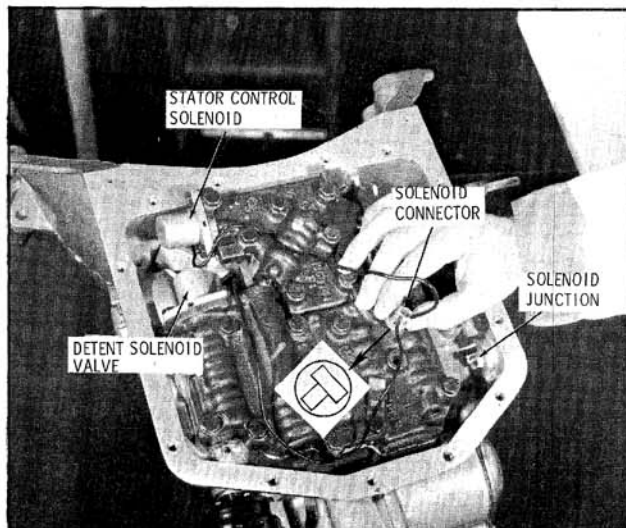

Fig. 6-537 Installing Solenoid Connector
8. Before installing spring detent assembly, note routing of solenoid wires. (Fig. 6-537) Install
10. Install solenoid connector to solenoid junction. (Fig. 6-537)